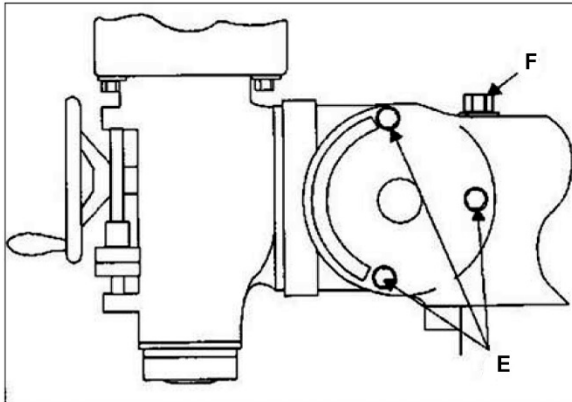

Figure 10: Mill head movement
- a. Loosen the three ram adapter clamp bolts (E, Figure 10). There is no need to loosen the bolts more than one-half (1/2) turn to allow tilting.
- c. Turn ram adapter worm nut (F, Figure 10) to tilt head forward and backward. Use scale on ram adapter to locate desired angle.
- g. Read dial indicator. The indicator should read zero. If not, loosen adaptor bolts (E, Figure 10) and reposition mill head.
- i. When indicator reads zero, tighten ram adapter clamp bolts (E, Figure 10).